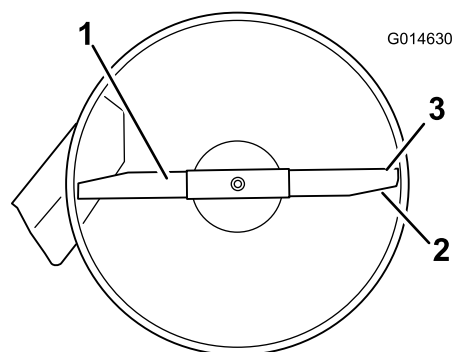
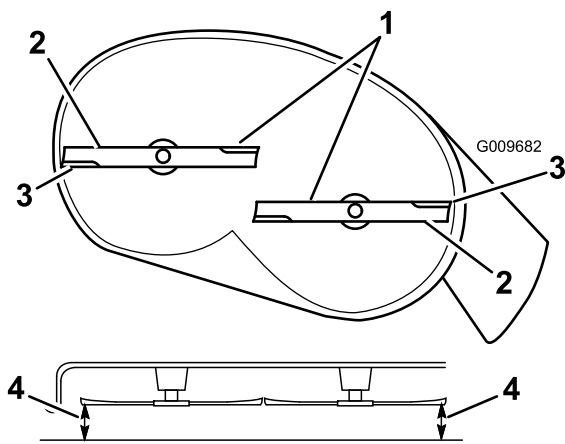

Figure 49
Figure 50
4. Carefully rotate the blade(s) so that they are all side to side (Figure 49 or Figure 50).
5. Measure between the outside cutting edges and the flat surface (Figure 50). If both measurements are not within 3/16 inch (5 mm), an adjustment is required; continue with this procedure.